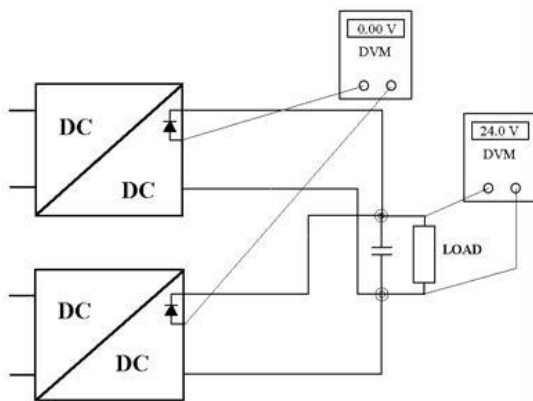

Figure 6. Adjusting output voltage measure at +Test or pin 8 on the H15 connector.
2. Measure the voltage at the load. Connect voltmeters as showed in *Figure 6*. If you have only access to one voltmeter you must move it around to make the adjustments.
To find the unit with the lowest output voltage you can measure the voltage difference before the series diode, as in *Figure 6*. Repeat from i. until you reach the desired output voltage at the load.
- i. Decrease the output voltage by turning the potentiometer marked "V.ADJ" counter clockwise on the unit with the highest output voltage until you reach the desired voltage at the load or until the output voltage does not decrease anymore (as the other units supply all current). To find the unit with the highest output voltage, measure the voltage difference before the series diode, as in *Figure 6*.